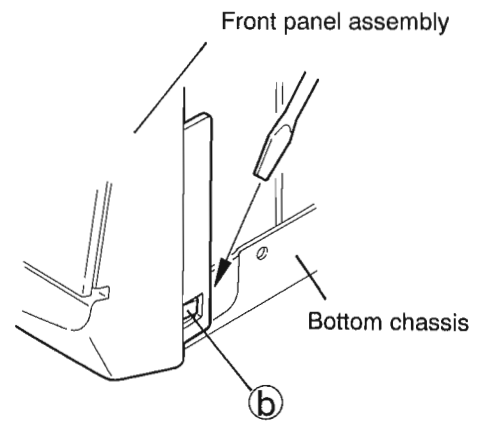

Fig. 3-6
5. Use a screwdriver, etc., to disengage clips (b) and (c) from the side panels of the main unit. (See Fig. 3-6,7)